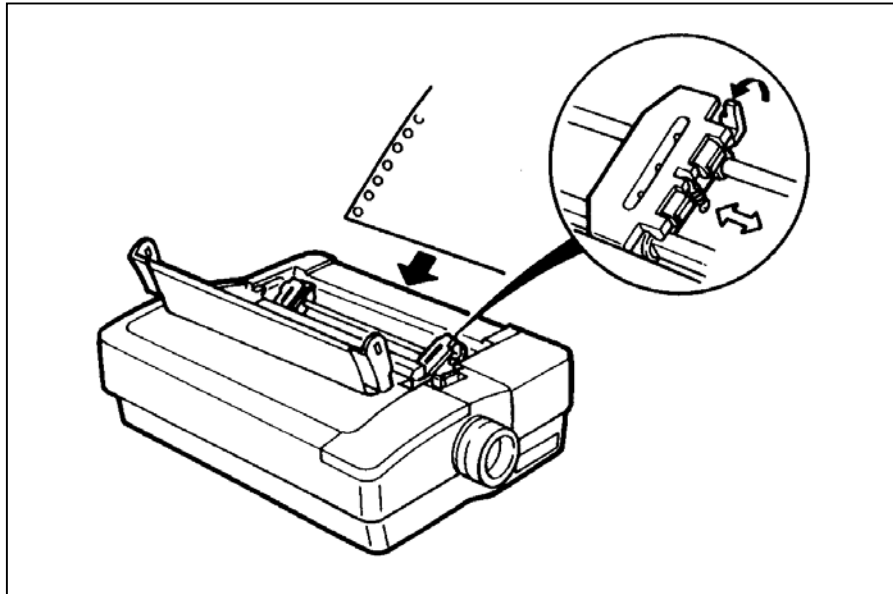

Figure 3-6. Adjusting the tractor feeders.
3. Unlock the lock levers on the tractor feeders and adjust them to the approximate paper width. See Figure 3-6.